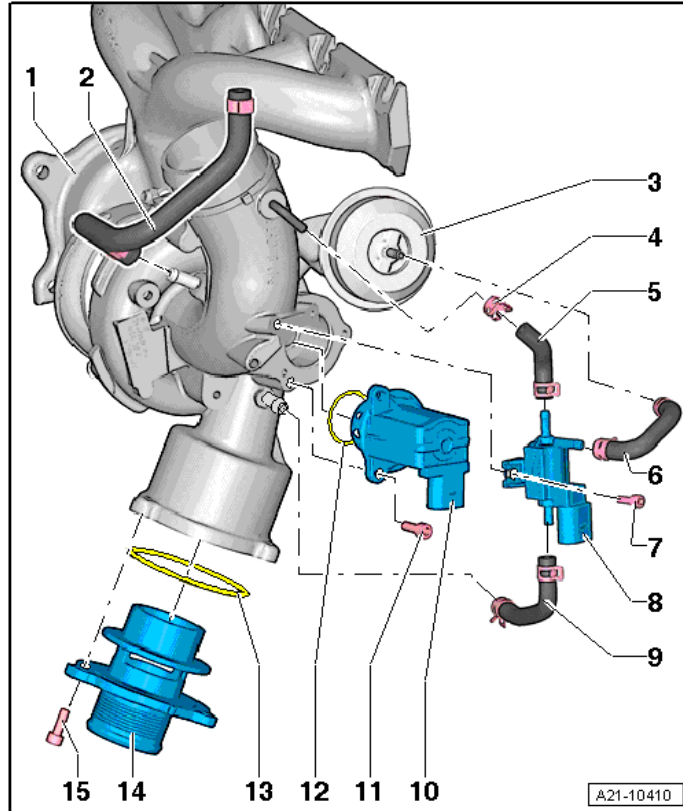

Figure 3. The turbocharger air recirculation valve N249 (10), bolt (11), and connection (14).
- a. Remove turbocharger air recirculation valve N249 (Figure 3, 10).
Tightening torque for bolt (Figure 3, 11): 9 Nm.
- b. Detach charge air pressure hose from connection (Figure 3, 14).